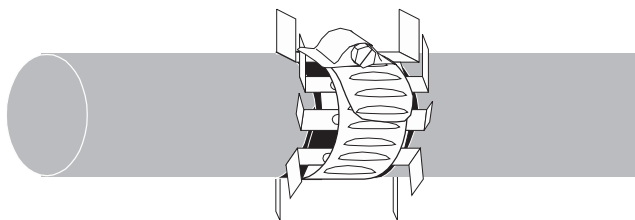
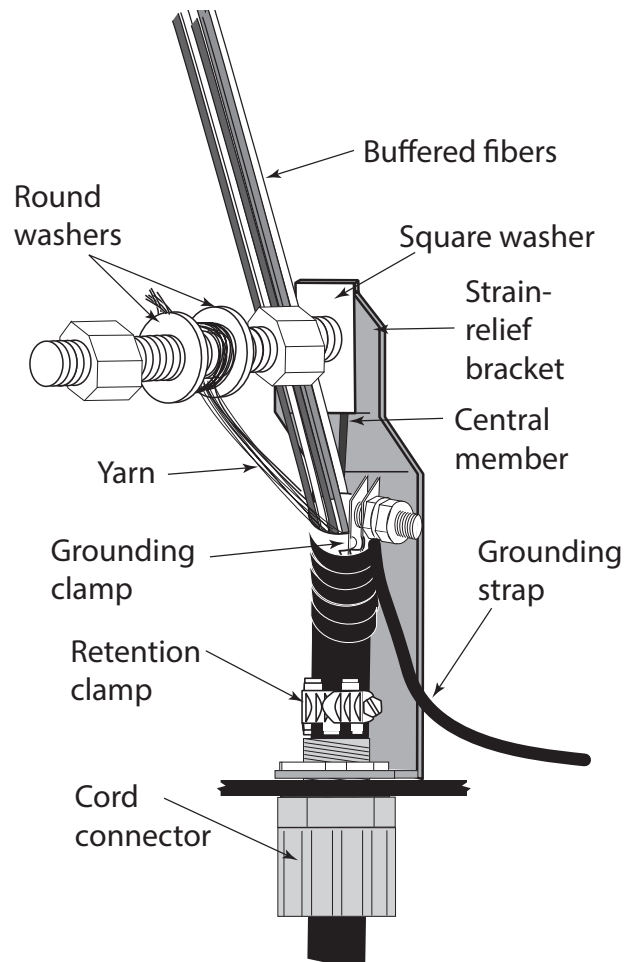

Figure 15
Figure 16
Step 3: When the cable is terminated at multiple housings, and the cable is armored or has a steel central member that requires grounding, the ground cable provided with the cable entry kit should be attached to the cable and one of the grommets holes in the braided ground strap located at the bottom of the cabinet. Use the hardware included in the cable entry kit (Figure 15 and Figure 16).